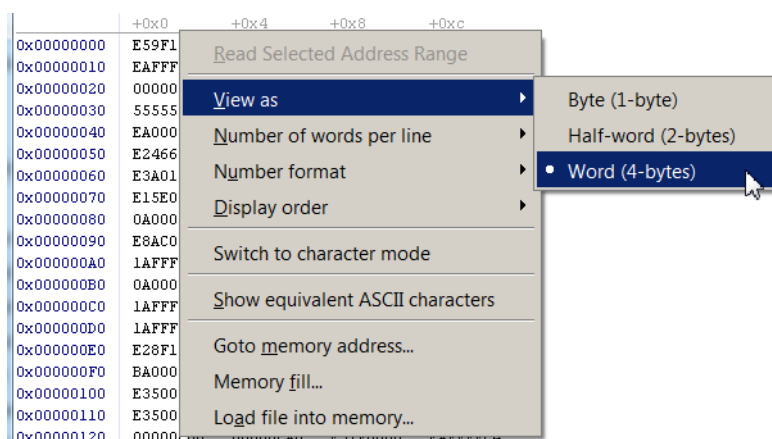

Figure 37. Setting the memory element size.
- Memory element size - the display can format the memory contents as bytes, half-words (2-bytes), or words (4-bytes). This setting can be configured by right-clicking on the Memory window, as illustrated in Figure 37.